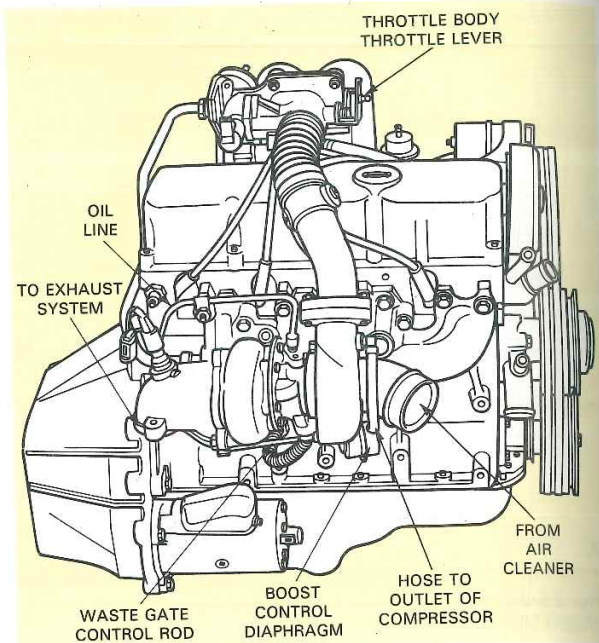

Fig. 25-25. Side view of engine shows location and mounting of turbocharger. (Ford)
1. Check connection of all vacuum lines to waste gate and oil lines to turbo, Fig. 25-25.